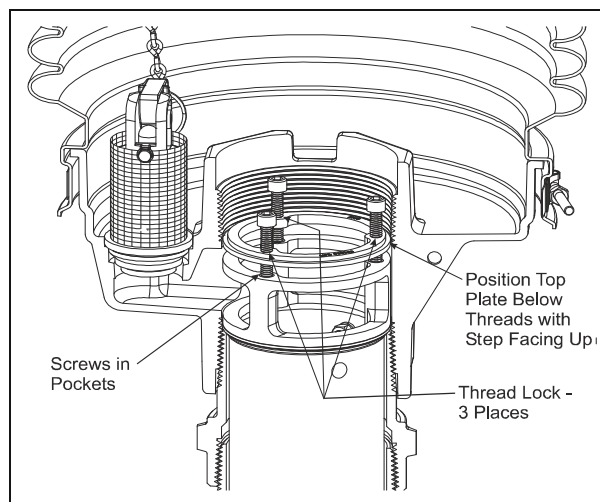

Figure 5
**Step 5: (See Figure 5)**
**Step 6:** (See Figure 5)